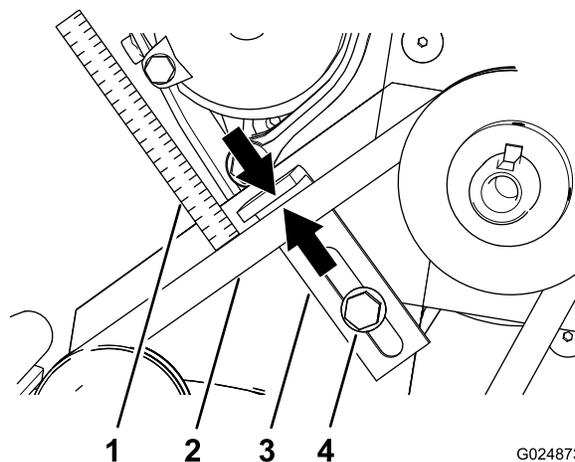

Figure 26
Note: If the air gap is larger or smaller than 6 mm (1/4 inch), adjust the belt guide (Figure 26); refer to Adjusting the Belt Guide \(page 21\).
2. Measure the air gap between the belt and the belt guide (Figure 26).
1. Loosen the hex-flange head bolt that secures the belt guide to the engine plate (Figure 26).
2. While keeping the top of the belt guide parallel to the belt, move the belt guide toward or away from the belt until the air gap is correct (Figure 26).
3. Tighten the hex-flange head bolt that secures the belt guide to the engine plate (Figure 26).